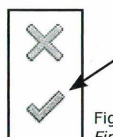

Fig. 05.22. Finish Edit Mode.
- Klik *Finish Edit Mode* (Fig. 05.22).